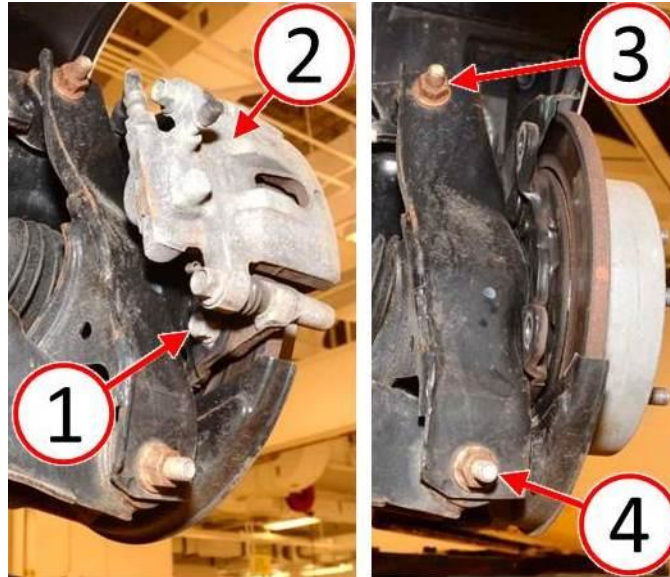

Fig. 1 Remove Rear Brake Caliper
3. Remove and discard the two bolts (1) securing the disc brake caliper adapter to the brake backing plate (Fig. 1).
4. Secure the brake caliper with caliper adapter (2) out of the way (Fig. 1).
5. Remove and discard the nuts (3 and 4) securing the upper and lower control arms to the trailing link (Fig. 1). Do not remove bolts (3 and 4) during this step.